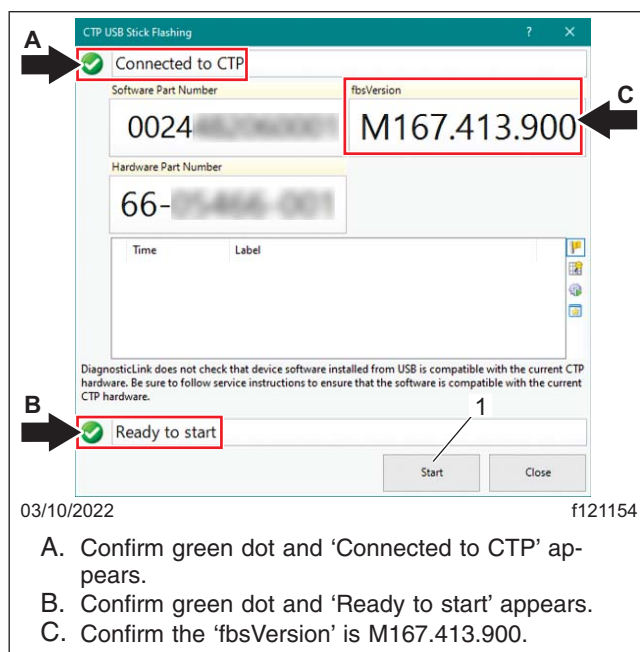

Fig. 29, CTP USB Stick Flashing Window
10. In the 'CTP USB Stick Flashing' window that appears, verify that a green dot appears beside 'Connected to CTP' on the top, a green dot appears beside 'Ready to start' at the bottom, and the fbs version is M167.413.900. See Fig. 29.